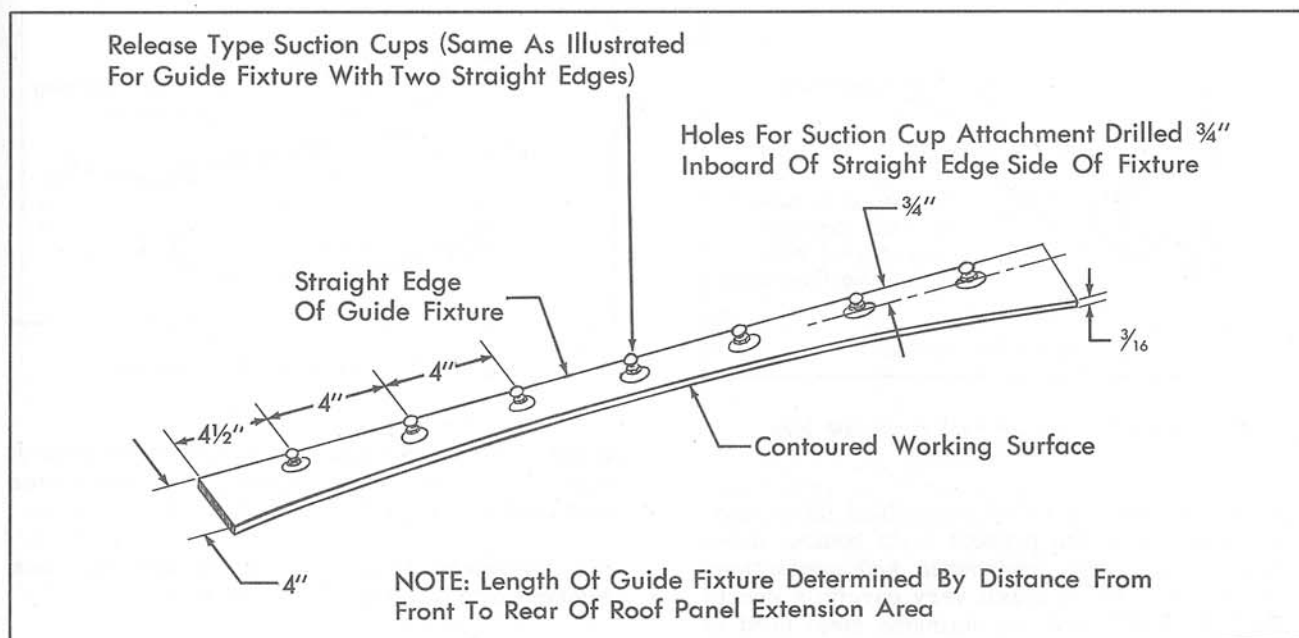

Fig. 17-66 Roof Panel Sanding Guide Special Fixture
f. Along straight edge of fixture drill holes $\frac{3}{4}$ " inboard and approximately 4" apart, Fig. 17-66.
g. Secure suction cups to fixture at hole locations, Fig. 17-66.